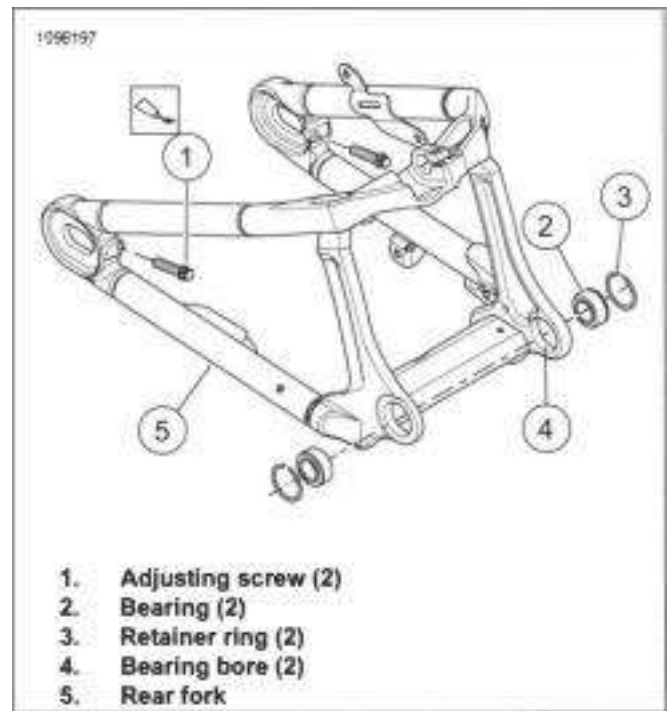
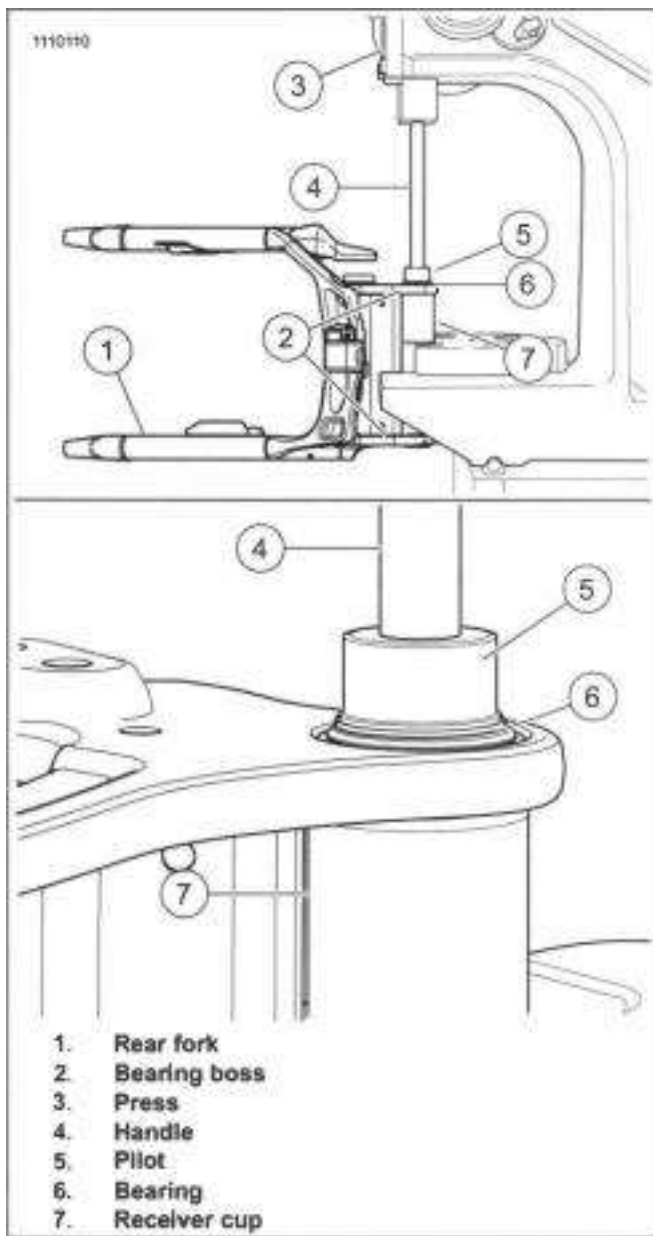

Figure 3-86. Rear Fork Bearings
Figure 3-87. Installing Rear Fork Bearings
2. See Figure 3-86. Remove adjusting screws (1).
1. See Figure 3-86. Clean all components in solvent.
3. Carefully inspect bearings (2) for wear and/or corrosion. Replace or repair as necessary.
4. Verify that the bearing retaining rings (3) are not bent or damaged. Replace or repair as necessary.
5. If the bearings were removed, clean the bearing bores (4) with a clean shop towel, removing any dirt or grit adhering to the bearing surface.
6. Rough check rear fork (5) for correct alignment or damage. Replace if bent or damaged.
7. Clean threads on adjustment screws (1) and adjusting screw holes.
1. See Figure 3-86. Install adjusting screw.
- a. Inspect condition of adjusting screws (1) and replace if necessary.
- a. Install **new** retaining rings (3) onto grooves on **new** bearings (2) if removed.
- b. See Figure 3-87. Position left bearing squarely on left bearing bore.